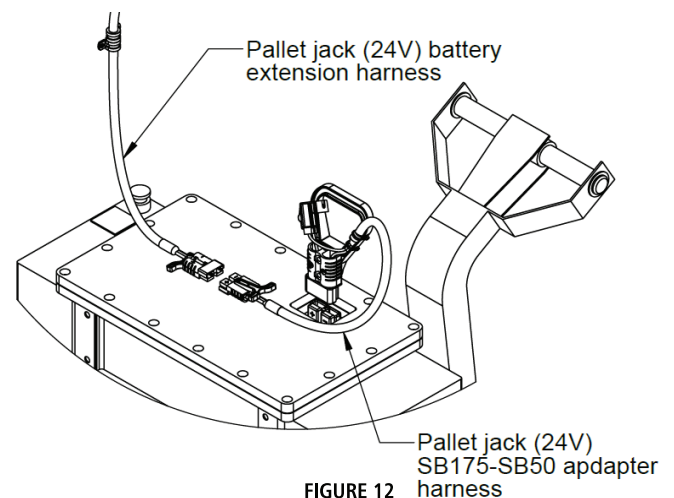

FIGURE 12
- a. Connect the SB175-SB50 adapter harness to the SB175 connector on the pallet jack. (Figure 12)
- b. Connect the other end to the SB50 extension harness from the DCS unit. (Figure 12)